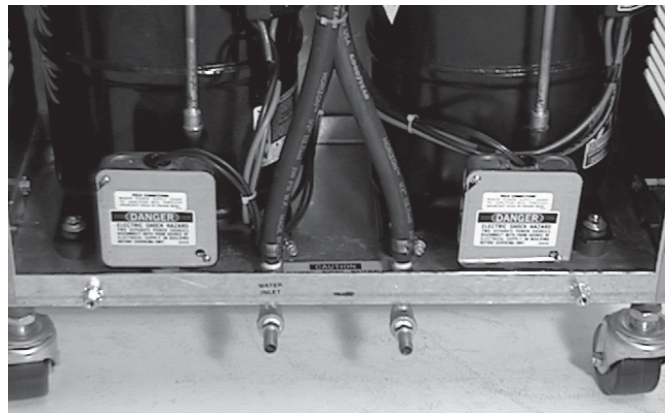

Figure 4. Water/Electrical Connections
- E. Water-cooled freezers need an adequate water supply. Install 1/2" (12,7mm) pipe or 1/2" (12,7mm) inside diameter copper water line to the freezer. Connect water outlet to a drain using a 1/2" (12,7mm) inside diameter line. Automatic washer hoses work well for final connections. All water connections must comply with local codes. Fig. 4.
- A. Refer to the nameplate at the rear of the freezer for specific electrical requirements. Make sure the power source in the building matches the freezer nameplate requirements. Bring the wires into the junction boxes through the access holes in the bottom rear of the freezer. Figure 4.